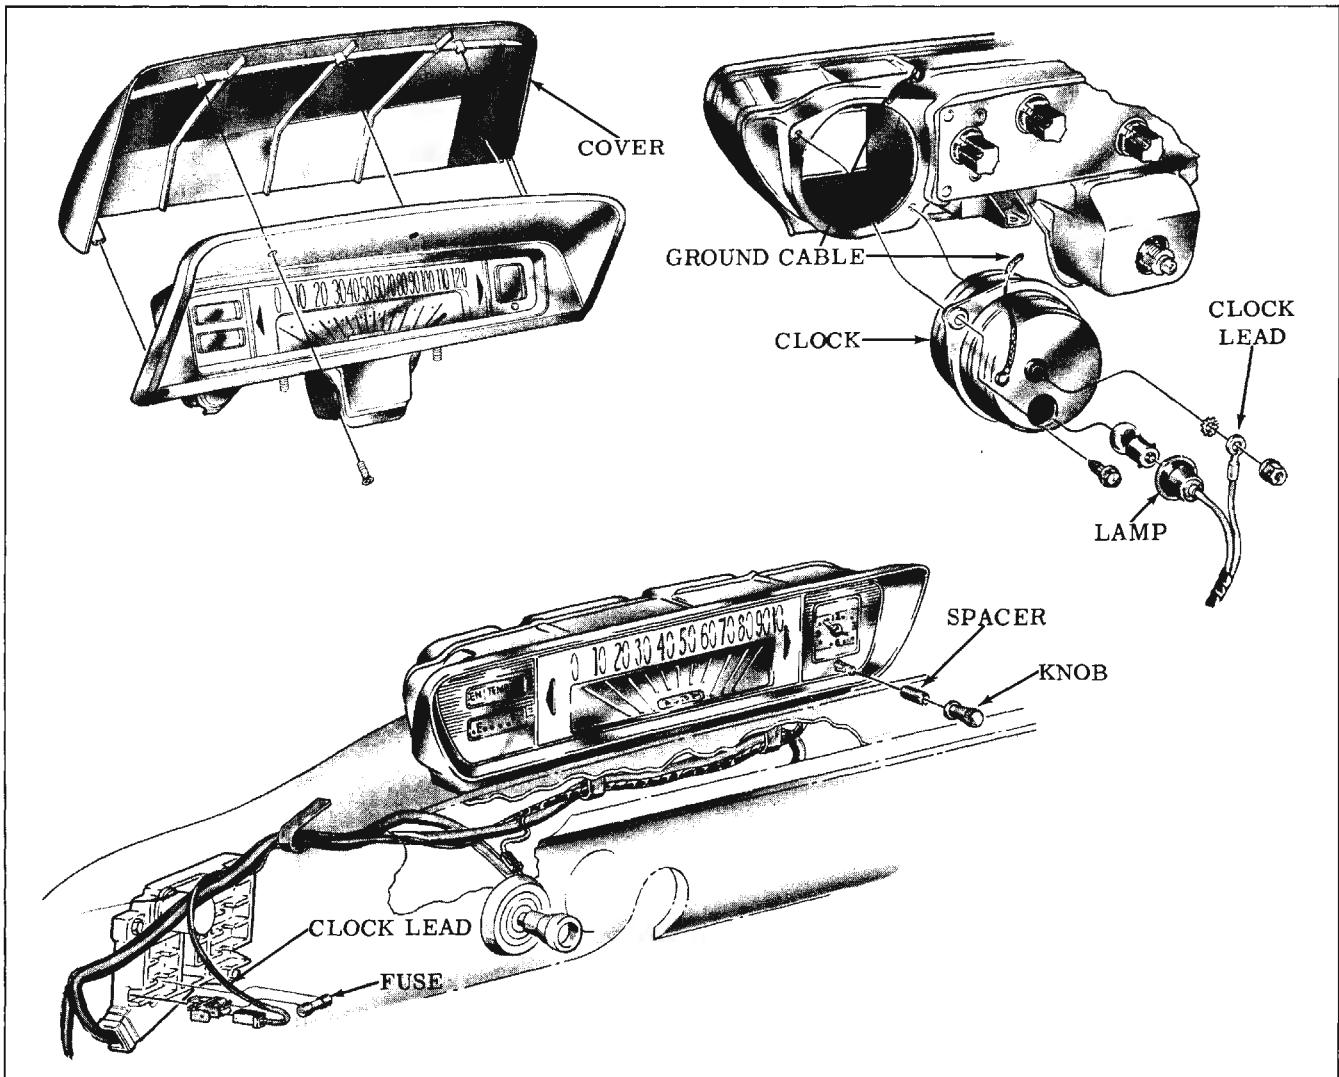

Fig. 13-125 Clock Installation
1. Remove instrument cluster cover. (Fig. 13-125)
2. Remove the clock set knob and spacer. (Fig. 13-125)